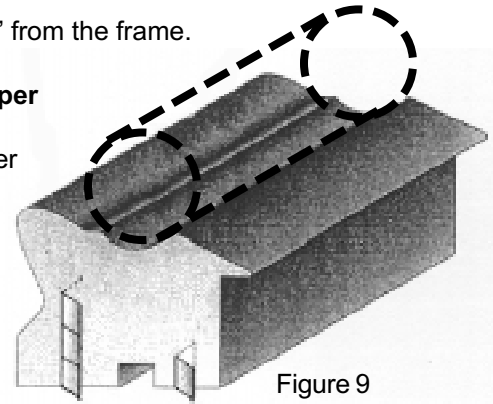

Figure 9
7. Loosen **Locking Lever (D)** and slide the **Upper Clamp** assembly to the front or back so the **Rounded Upper Clamp Pad** is centered over the concave contoured top of the frame shown in Figure 9. Then tighten the **Locking Lever (D)**.
8. Loosen **Locking Lever (S)** and raise or lower the **Upper Clamp Shaft (K)** so the **Round Upper Clamp Pad (B)** is 3/8" to 5/8" above the frame. Tighten the **Locking Lever (S)** which must enter one of the holes in the **Upper Clamp Shaft (S)** to prevent slippage. After tightening, be sure the **Locking Lever (S)** handle is not pointing downward because it may hit the table when the **Upper Clamp** descends. You can pull the handle free and rotate it.
11. Slide the **Fence Assembly (G)** toward the front against the **Collar (J)** and tighten the **Locking Lever (F)**. This prevents pushing the assembly to the rear under the force of the **Front Clamp (A)**. Locking the slide on the first **Nail** insertion was not necessary because the **Fence Assembly (G)** was held by **Collar (H)**. If necessary, move the **Front Clamp (A)** to the next hole to maintain the 1/4" to 3/8" clearance between the **Front Clamp (A)** and the rabbet of the frame. It may also be necessary to re-position the **Upper Clamp** to align the **Round Upper Clamp Pad (B)** to the shape of the moulding.
13. If the frame is wide, you may insert a third (or more) nails by positioning the **Fence Assembly (G)** between the first and second nails. Use the **Locking Lever (F)**.
14. In the event of a tall frame profile, you can insert more than one nail in the same position, or "stack" the nails one on top of the other as shown in Figure 9. Ease up on the **Foot Pedal** slightly after inserting the first **Nail** so the moulding remains clamped; then depress the **Foot Pedal** again.